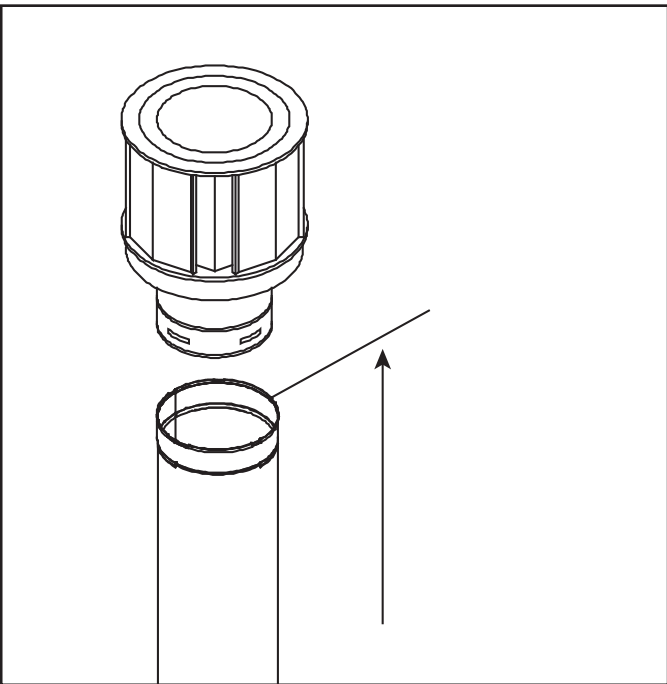

Figure 4.7. Measure to Top of Last Section of Pipe
- Vertical terminations are measured to top of last section of pipe. See Figure 4.7.